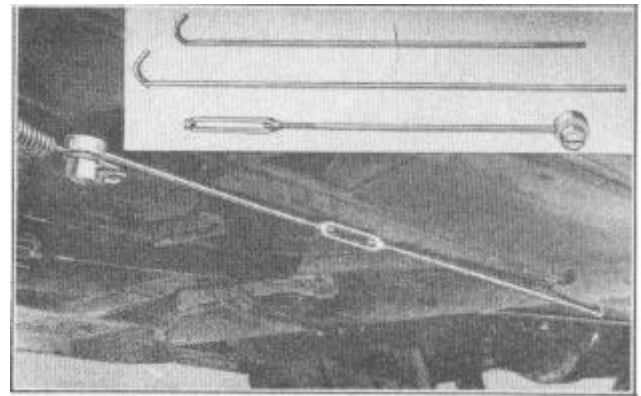

FIGURE 11
4. Remove clutch overcenter spring using tool Z-2956, Figure 11.